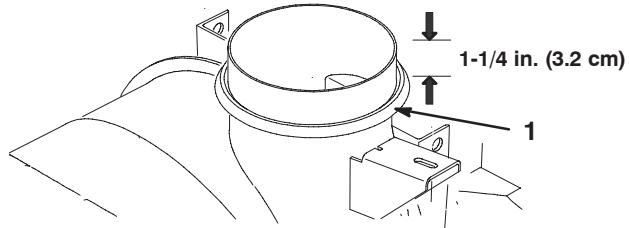

Figure 3
5. Slide the new chute ring onto the chute opening and position it so that it is 1-1/4 inches (3.2 cm) from the top of the chute opening (Fig. 3).